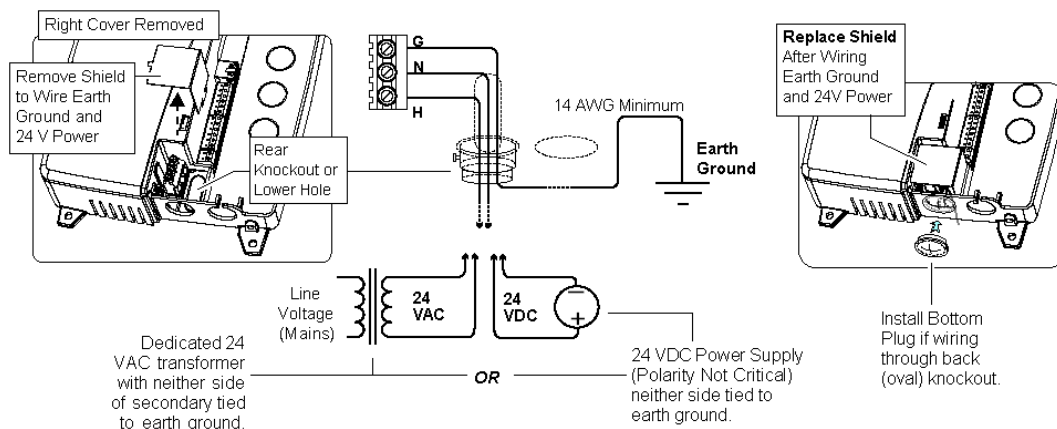

Figure 11: Earth Ground and 24 V Input Power Wiring
2. Remove the shield over the 3-position terminal block (see Figure 11, left side) and carefully set the shield aside.